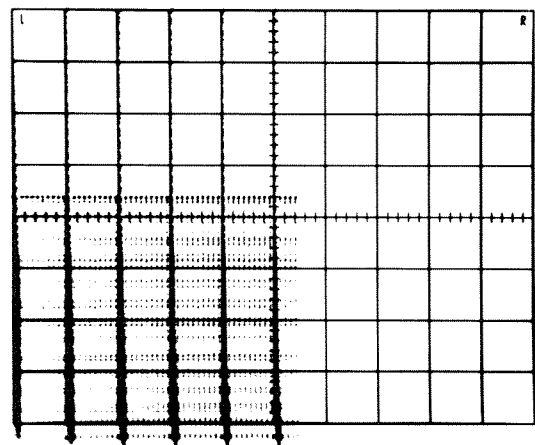

Fig. 4-4. Typical CRT display when checking sweep length.
- b. Rotate the MAIN TRIGGERING LEVEL control for a triggered display. Rotate the POSITION control to position the eleventh one-millisecond marker at the center vertical graticule line (see Fig. 4-4).
- c. CHECK—CRT display for sweep length of 10.4 divisions within 0.3 division, as shown by 0.1 to 0.7 division of display to the right of the center vertical graticule line (see Fig. 4-4).